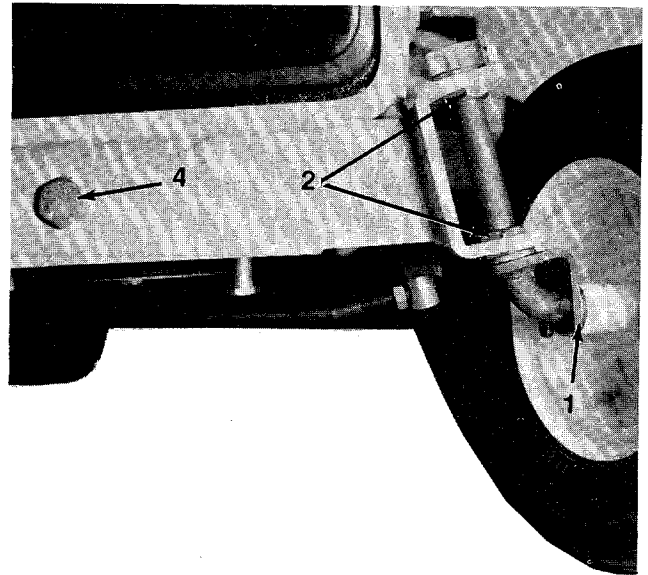

FIGURE 14.
1. **Front Wheel Bearings (4).** Lubricate with SAE 30 oil once a season or after every 25 hours of operation. See figure 14.
2. **King Pin Bearings (4).** Lubricate with SAE 30 oil once a season or after every 25 hours of operation. See figure 14.
4. **Pivot Bolt.** Lubricate with SAE 30 oil once a season. See figure 14.